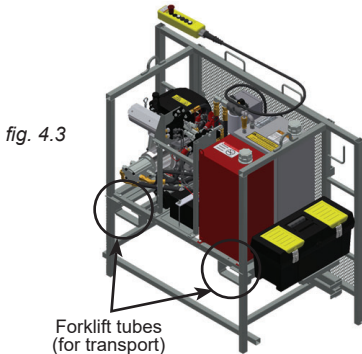

fig. 4.3
- 1- Insert the forks of a rough terrain forklift in the forklift tubes on the power pack (fig. 4.3).